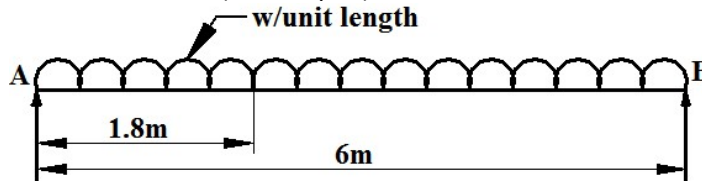

Figure 41
9. A steel grinder of 6m length acting as a beam carries a uniformly distributed load  $w$  N/m runs throughout its length as shown in **Figure 41**. If  $I=30 \times 10^6 \text{ m}^4$  and depth 270mm. Calculate i) Magnitude of " $w$ " so that the maximum stress developed in the beam section does not exceed  $72 \text{ MN/m}^2$  ii) The slope and the deflection in the beam at a distance of 1.8m from one end. Take  $E=200 \text{ GN/m}^2$  (June/July 09)